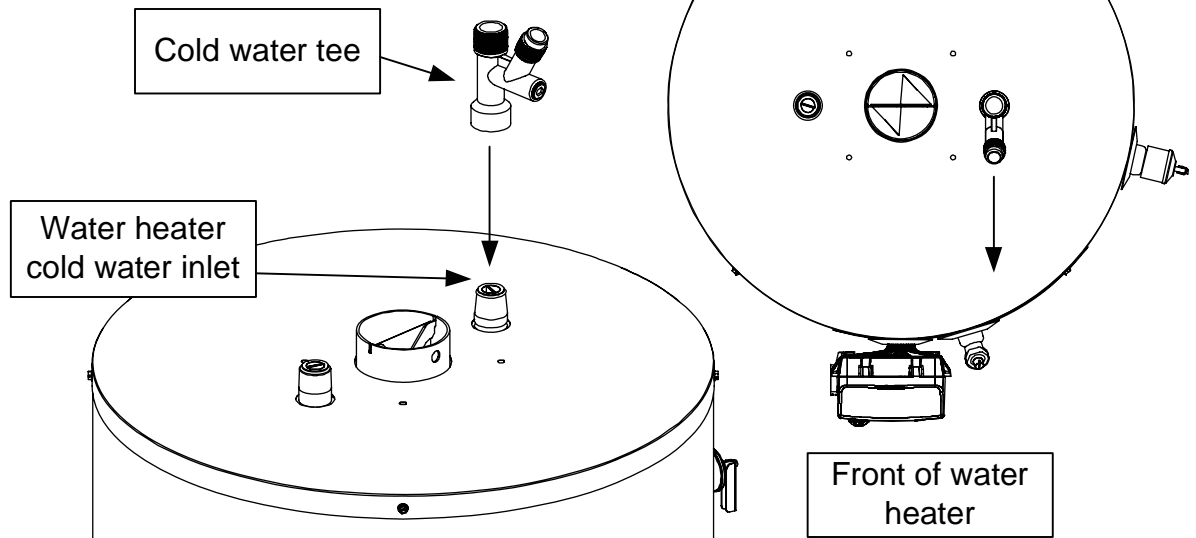

Figure 5
2. Install the cold water tee onto the cold water inlet of the water heater. If installing on a water heater with 1" inlet fitting, use 1" NPT to 3/4" NPT brass reducer bushing and brass nipples. Tighten until leak tight and facing the front of the water heater as shown in Figure 5.